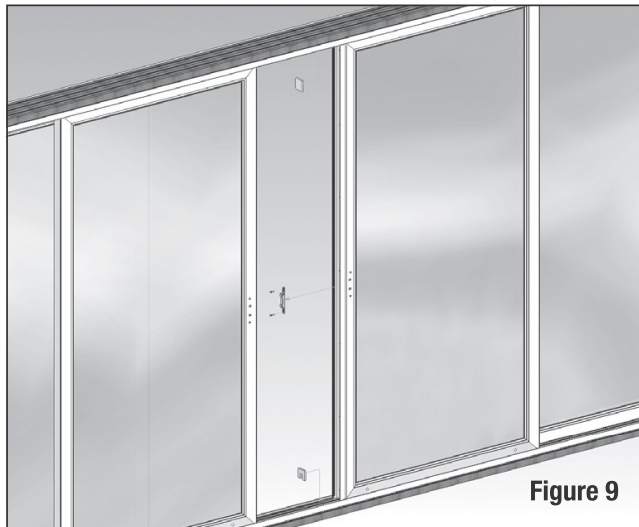

Figure 9
- 7 Attach the latch to the “H” connector, using a #8 - 1 1/2” screw. See **Figure 9**.
Attach the foam seals to the “H” connector, placing the square piece at the head and the piece with the slope at the bottom. See **Figure 9**.